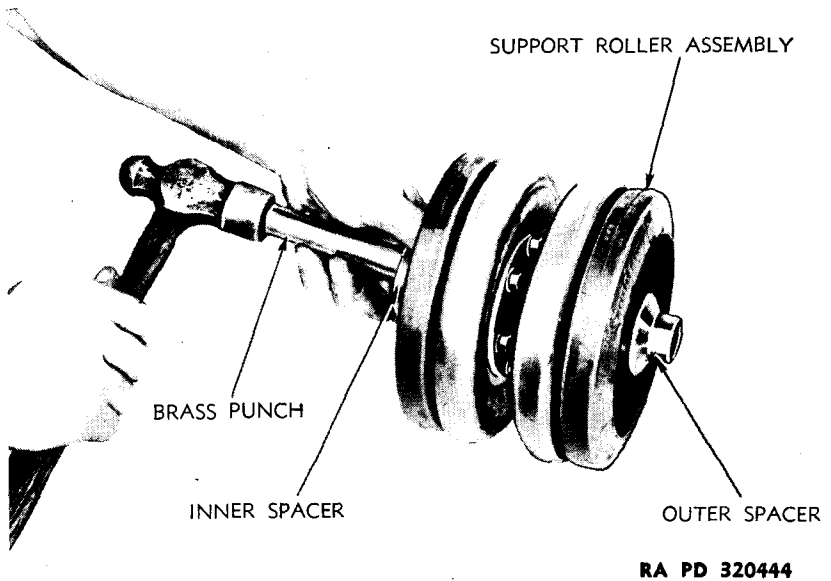

Figure 31 — Support Roller Assembly
c. Remove Bearings From Support Roller and Brake Housing Cover. Tap outer bearing spacer from support roller shaft (fig. 31). Remove shaft and inner spacer. Tap inner spacer from shaft. Press bushings from support roller hub. Remove snap ring from brake housing cover (fig. 32). Press bearing from brake housing cover. Press bushing from inner bearing carrier.